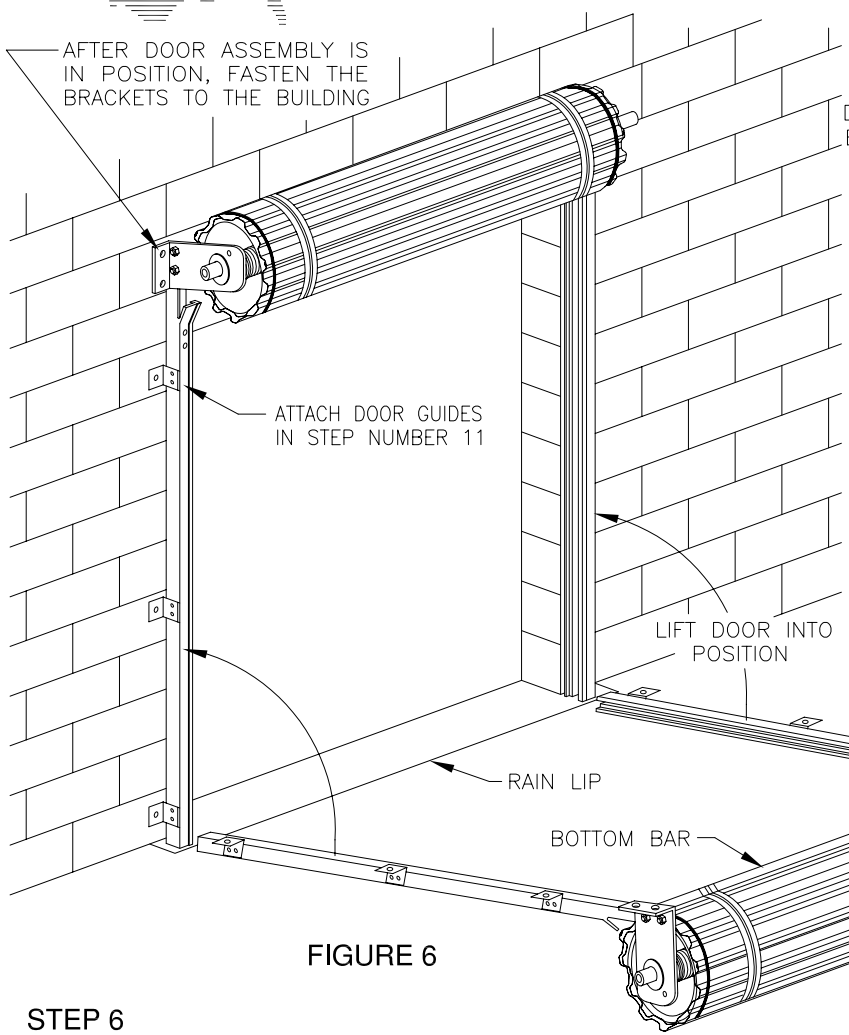
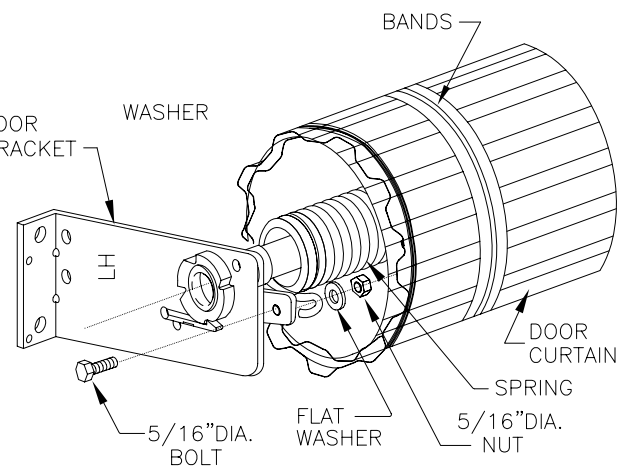

FIGURE 6
FIGURE 5
PLACE BOTTOM OF GUIDES AGAINST THE WALL AT DOOR JAMB (DOOR CENTERED IN OPENING), LIFT BOTH ENDS OF DOOR EVENLY AND WALK INTO POSITION AT DOOR HEADER. WHILE ONE INSTALLER HOLDS DOOR IN PLACE, THE SECOND INSTALLER SHOULD VERIFY THAT DOOR IS CENTERED IN OPENING AND CHECK PLUMB OF GUIDES. IF DOOR IS NOT CENTERED IN OPENING, DOOR CAN BE EASILY MOVED LEFT OR RIGHT. ALLOW 3/8" CLEARANCE FROM CURTAIN ROLL END AND INSIDE OF VERTICAL GUIDE RAILS. BOLT HEAD BRACKET AND GUIDE TO BUILDING AT DOOR BRACKET ONLY. DOOR BRACKETS SHOULD NOW SUPPORT DOOR (SEE FIGURE 6 ABOVE). NOTE: EACH BRACKET REQUIRES (2) FASTENERS TO ATTACH IT TO JAMB.
PRIOR TO INSTALLING SPRING BOLT, ENSURE BOTTOM BAR IS IN POSITION SHOWN IN FIGURE 6. MAKE SURE THAT SPRING IS IN THE NEUTRAL POSITION. FASTEN END OF SPRING TO BRACKET WITH 5/16" DIAMETER BOLT WITH WASHER AS SHOWN IN FIGURE 5 (BOLT THROUGH THE END OF THE RATCHET TENSION DEVICE AS SHOWN).